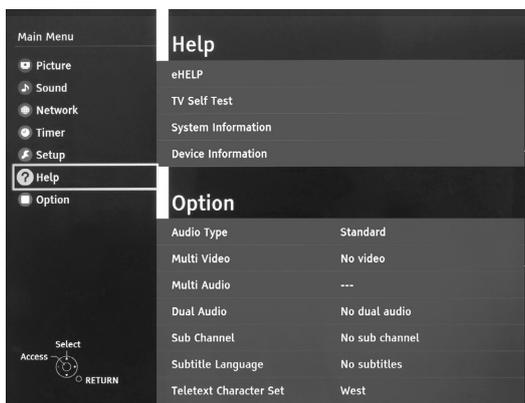
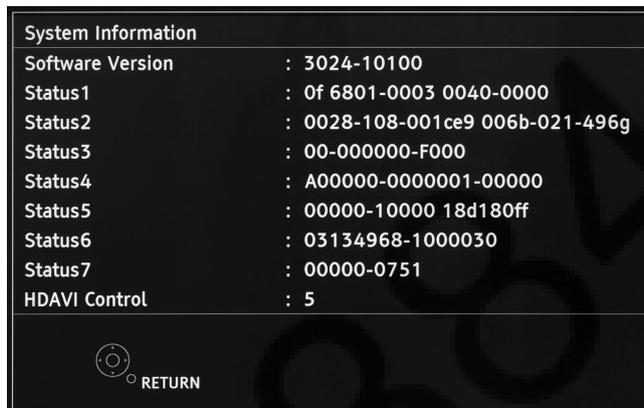

Fig.7
Fig.8
2. To select [Help] and then to select [System Information].(see Fig.7, Fig.8)